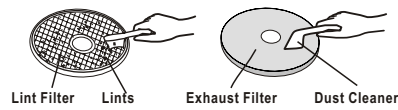

Figure 2
3. To install the hook to the dryer, remove screws 1, 2, 3 & 4 as indicated in Fig. 2.
5. Remove lower side screws and install the spacers provided as per Fig. 2.
Do not damage the filters (as shown in figure 2)